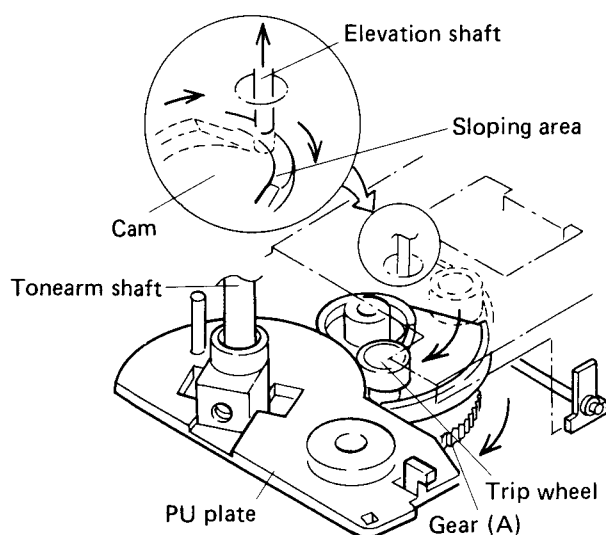

Fig. 11-4 Lead in operation
3. Refer to Fig. 11-4. The elevation shaft contacts the sloping area located around the center shaft of the cam. Also note the position of the cam at this time. This is the position the mechanism will be in prior to starting up the unit. The tonearm will be on the arm rest, and arm-elevation will be in the DOWN position.